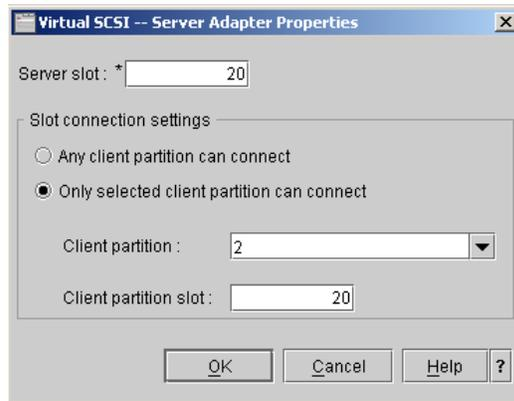

Figure 3-28 Server adapter properties
- Specify the **Maximum virtual adapters** that will be supported by the Virtual I/O Server and then click **Create server adapter**. The drop-down list under Client partition allows you to choose which partition can use the slot, as shown in Figure 3-28. Click **OK** when done.